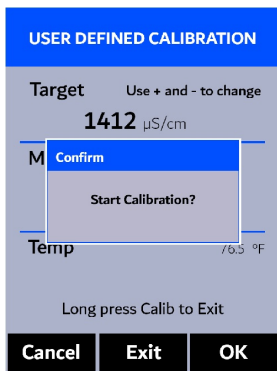

Figure 11.
8. The display updates as shown in Figure 11 and the user can choose one of three options: